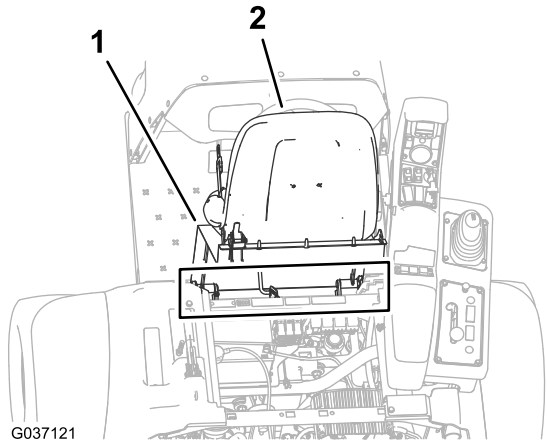

**Figure 222**
- Align the seat and seat plate to the chassis of the machine (Figure 222).